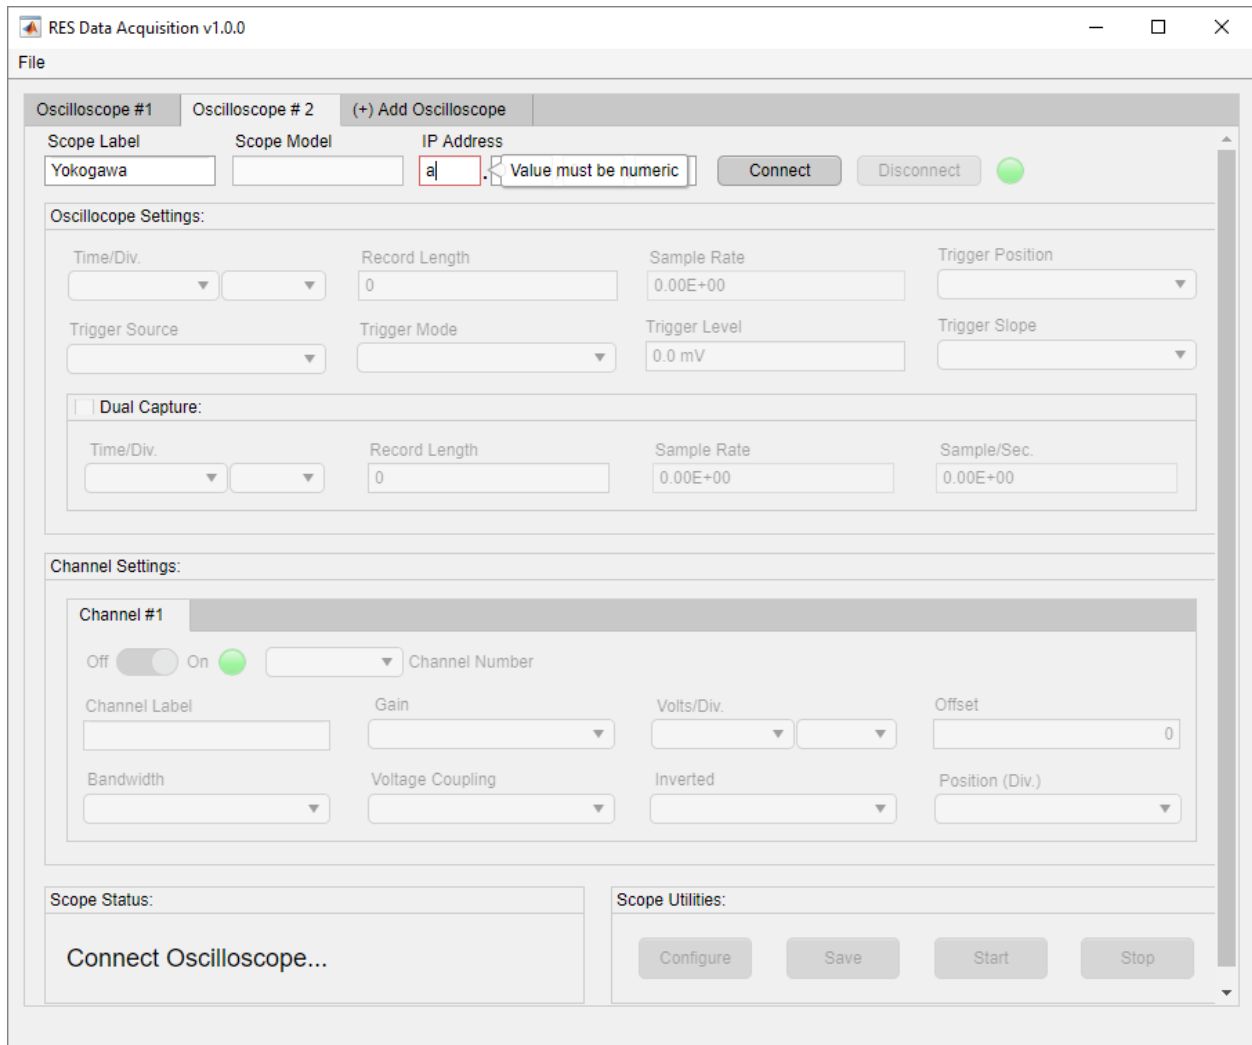

Figure 3-5. IP Address Nonnumerical Restriction
3.2.3.3. Internet Protocol (IP) Address
The Internet Protocol (IP) address is the address of the target instrument. The IP address follows the standard Internet Protocol Version 4 (IPv4) format with each octet in the range of 0 to 255. *RES DAQ v1.0.0* will restrict the user from entering nonnumerical characters as shown in Figure 3-5.